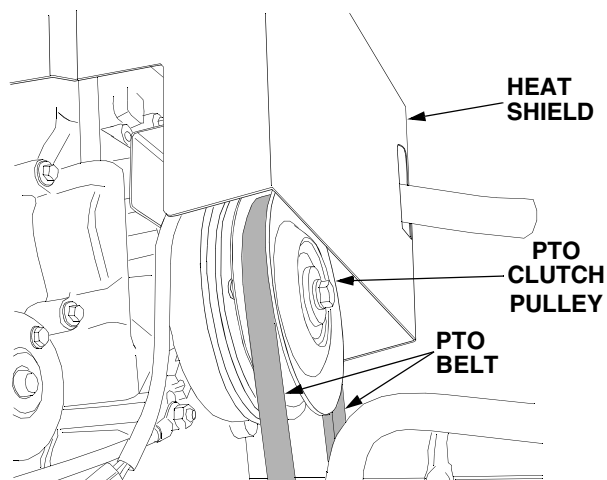

Figure 50
11. Maneuver the loop of the belt up between the front of the PTO pulley and the heat shield and place the belt into the groove of the pulley. See Figure 50.